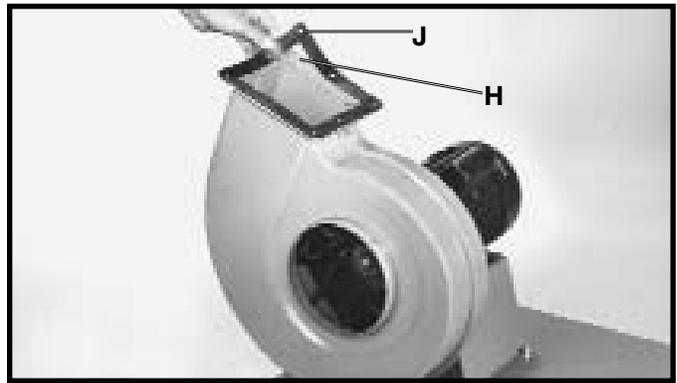

Fig. 8
5. Place ten-hole rubber gasket (J) Fig. 8, on blower flange (H). Align holes in gasket with mounting holes in blower flange and press gasket onto flange as shown.